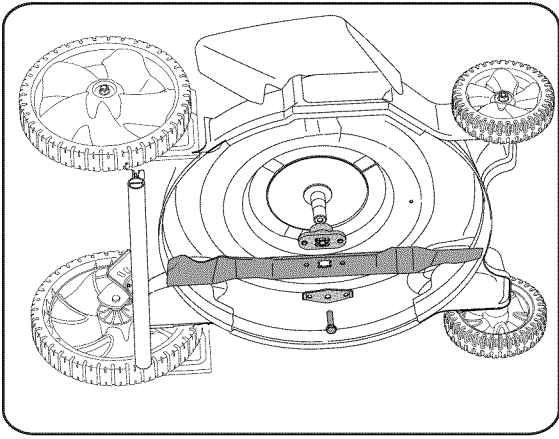

Figure 12
3. Remove the bolt and the blade bell support which hold the blade and the blade adapter to the engine crankshaft. See Figure 12.
9. Install the blade adapter on the crankshaft with the "star" away from the engine. See Figure 12. Place the blade with the side marked "bottom" (or with part number) facing away from the adapter. Align the blade bell support over the blade with the tabs in the holes of the blade and insert the hex bolt.